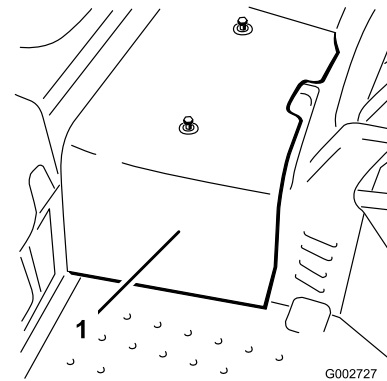

Figure 43
2. Loosen the 2 screws securing the center shroud to the machine and remove the shroud (Figure 43).